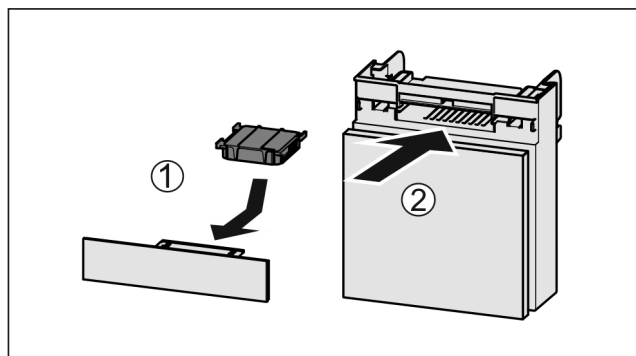

Fig. 210
- Insert the carbon filter as shown in the diagram Fig. 210 (1).
- Push the compartment in Fig. 210 (2).